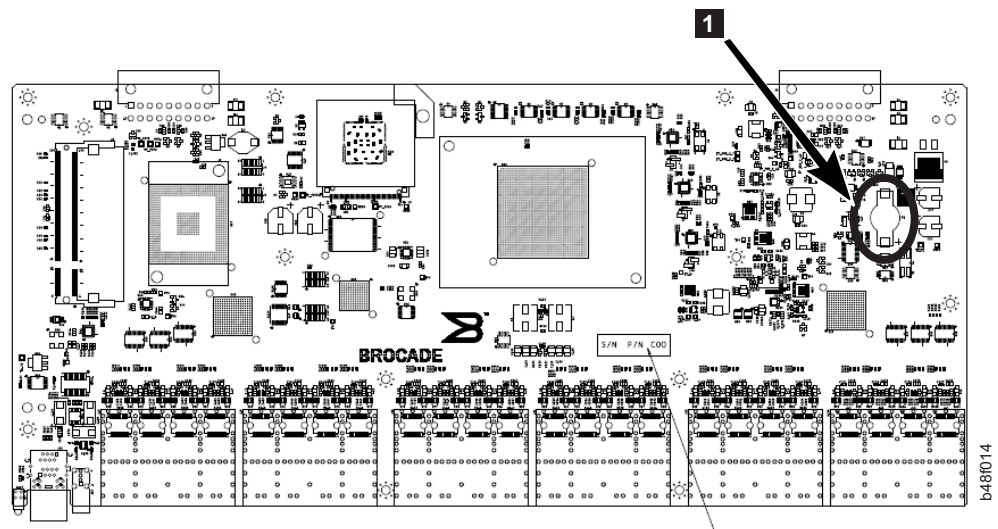

Figure 15. Location of battery holder
5. On the circuit board, go to the B1 location ( **1** in Figure 15) and remove the BR1225 battery from the holder.